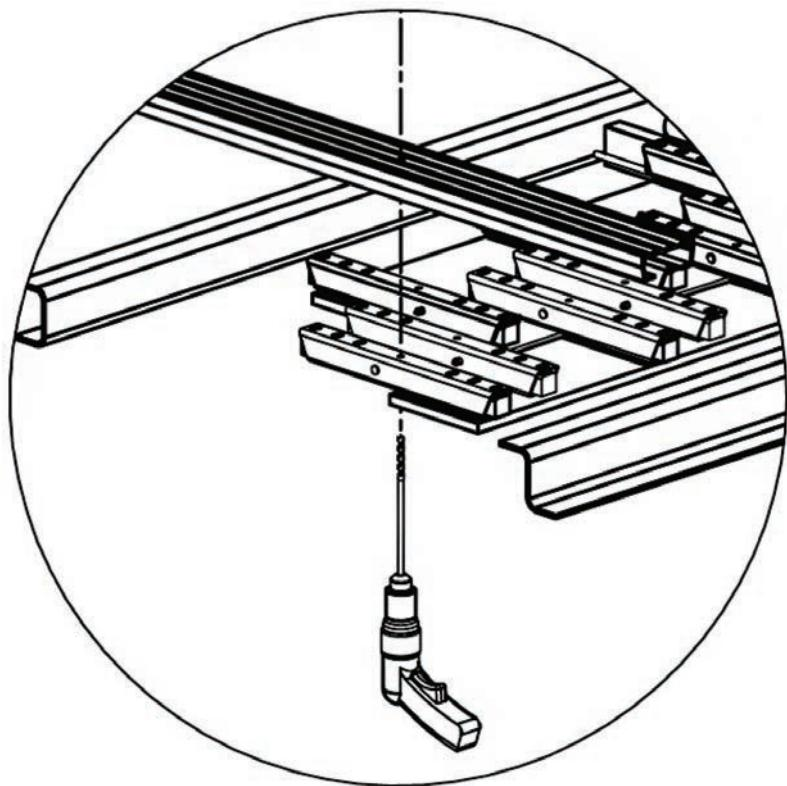

Figure 29
- b) Use a $5/16"$ [8 mm] extension bit to drill up through the aligning holes in the bottom of the outer shoes of each cross drive (six places=two per cross-drive). Note that this hole is the only hole through the bottom of each shoe and that there are no threads in the corresponding hole in the nut bar. (Figure 29)
- c) Set the 7-hole drill jig on top of the floor slats. Note that small hole in the series is used to align the jig, but it is not in the center of the pattern and must be in the proper orientation for aligning the jig properly. Determine the proper orientation for the jig and align it along one crossmember by inserting two 5/16" [8 mm] bits through the jig into the holes drilled through the slats (one in each end of the jig). Note: Put a few layers of tape on the bit at the point Figure 29 where the flutes run out and insert the smooth end of the drill through the holes to line up the jig.)